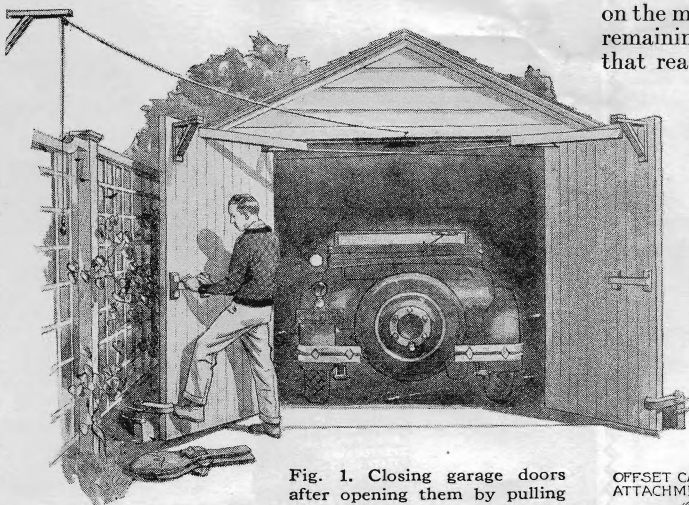
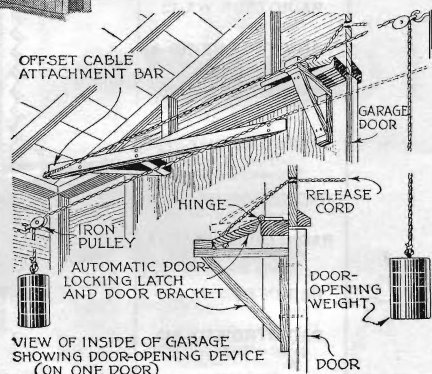

Fig. 1. Closing garage doors after opening them by pulling cord to operate the weights and driving in without leaving car.
Fig. 2. Arrangement of weights and pulleys to open garage doors and the release latch which is used to put the handy device in operation.
**W**HEN you come back from a drive it is a nuisance to have to get out, unlock and open the garage doors, climb back in the car, and drive in. A novel and ingenious way to arrange self-opening garage doors is shown in Fig. 1, and details of construction are given in Fig. 2. Instead of stopping the car you reach out and pull the end of cord placed conveniently near the driveway and some distance from the garage doors. The doors at once swing open and you continue into the garage.
The secret lies in the peculiar leverage that translates the downward pull of two weights into effective opening pulls on the doors. Note that the point of attachment for the end of the cord is on the end of wooden frame so that as the door swings outward the point of attachment moves to let the weight go downward. Fig. 2 shows the release latch which should, of course, be fitted to the door which has a bead to keep the other door closed.
**WALTER E. BAILEY**, of Maywood, California, wins this month's \$10 prize with his suggestion for garage doors opened without leaving the car (Figs. 1 and 2). Each month Popular Science Monthly awards \$10, in addition to regular space rates, for the best idea sent in for motorists. Other contributions published are paid for at usual rates.